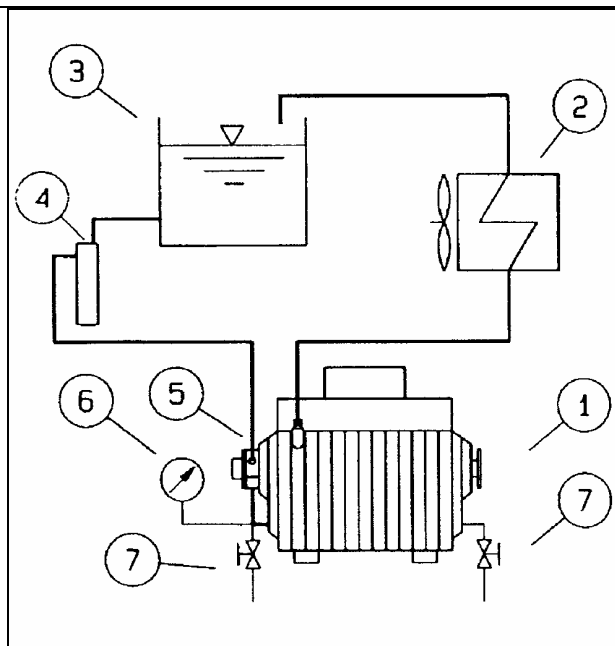

Fig. 11
| <p>Cooling the vacuum pump. fig.11</p> <p>The vacuum pump is liquid-cooled.</p> <p> We advise using a non-pressurized closed circuit with forced circulation as in fig.11. The circulating pump is built in.</p> <p> The temperature of the cooling fluid must never exceed 70°C. In the event of overheating of the cooling fluid, it is advisable to run the vacuum pump with free suction until the temperature of the fluid falls, then stop the vacuum pump and leave for about 1 hour. If necessary, contact an authorized dealer.</p> <p> If the vacuum pump is used in harsh conditions or for continuous duty, use an extra powerful cooling system: Contact a Moro authorized dealer. La Moro has all the elements needed to make a system corresponding to the one shown in the figure and declines all responsibility for overheating or damage due to systems not complying with the above indications.</p> <p> The pressure in the system must not rise above 0,7 – 0,8 bar. If a higher pressure is found, proceed as follows: Ensure that the system is not underpressure. Use pipes with a larger diameter, shorter pipes, or with less curves Ensure that the system elements are not clogged.</p> <p>Cooling liquid Water has to be mixed with 5%-10% of transparent soluble fluid oil (e.g./ SHALL LUTEM OIL MULTIMETAL or equivalent).</p> <p>Antifreeze fluid As cooling fluid the vacuum pump uses a mixture of water and antifreeze as shown in following table:</p> <table border="1" data-bbox="151 1456 534 1668"> <thead> <tr> <th>Outside temperature °C</th> <th>Antifreeze %</th> </tr> </thead> <tbody> <tr> <td>Down to -10°</td> <td>5</td> </tr> <tr> <td>Down to -20°</td> <td>35</td> </tr> <tr> <td>Down to -30°</td> <td>45</td> </tr> <tr> <td>Down to -40°</td> <td>55</td> </tr> <tr> <td>Lower than -40°</td> <td>Apply to an Authorized Dealer</td> </tr> </tbody> </table> <p> Never use mixture of water and less than 5% antifreeze as coolant and certainly not water alone.</p> <p> If the vacuum pump is to remain unused for long periods, remove the cooling fluid by means of the drainage cocks provided, see page 11.</p> | Outside temperature °C | Antifreeze % | Down to -10° | 5 | Down to -20° | 35 | Down to -30° | 45 | Down to -40° | 55 | Lower than -40° | Apply to an Authorized Dealer | <p>Refroidissement de la pompe à vide-fig.11</p> <p>La pompe à vide est refroidie par liquide.</p> <p> Il est conseillé d'utiliser un circuit fermé non pressurisé à circulation forcée comme indiqué à la figure 11. La pompe de circulation est intégrée.</p> <p> Le liquide de refroidissement ne doit jamais dépasser les 70°C. En cas de réchauffage excessif du liquide, il est opportun de faire opérer la pompe à vide en aspiration libre jusqu'à ce que la température du liquide diminue et d'arrêter ensuite la pompe à vide au moins pendant une heure. Contacter un revendeur autorisé.</p> <p> Si l'emploi de la pompe à vide est lourd ou continu adopter une installation de refroidissement plus puissante :contacter un revendeur autorisé ou Moro dispose de tous les éléments nécessaires pour réaliser une installation conforme à celle qui est indiquée sur la figure et décline toute responsabilité en cas de surchauffages ou dommages dus à des installations non conformes à ce qui est indiqué ci-dessus.</p> <p> La pression de l'installation ne doit pas dépasser 0,7-0,8 bars. Au cas où l'on constate une pression plus grande, contrôler : que l'installation n'est pas pressurisée. utiliser des tubes ayant un diamètre plus grand, plus courts et avec le minimum de courbes. contrôler que les éléments de l'installation ne sont pas bouchés.</p> <p>Liquide de refroidissement L'eau de refroidissement devra être mélangée à une huile fluide soluble réfrigérante transparente (p.e. : SHELL LUTEM OIL MULTIMETAL) dans la mesure de 5%-10%.</p> <p>Liquide antigel La pompe à vide utilise comme liquide de refroidissement un mélange d'eau et d'antigel d'après le tableau suivant :</p> <table border="1" data-bbox="587 1478 997 1691"> <thead> <tr> <th>Température extrême °C</th> <th>Antigel %</th> </tr> </thead> <tbody> <tr> <td>Jusqu'à -10°</td> <td>5</td> </tr> <tr> <td>Jusqu'à -20°</td> <td>35</td> </tr> <tr> <td>Jusqu'à -30°</td> <td>45</td> </tr> <tr> <td>Jusqu'à -40°</td> <td>55</td> </tr> <tr> <td>Au-delà de -40°</td> <td>S'adresser à un Revendeur autorisé</td> </tr> </tbody> </table> <p> Ne jamais utiliser un mélange d'eau et d'antigel inférieurs à 5% ou uniquement de l'eau comme liquide de refroidissement.</p> <p> Si l'on n'utilise pas la pompe à vide pendant de longues périodes enlever le liquide de refroidissement au moyen des drainages appropriés – voir fig.11</p> | Température extrême °C | Antigel % | Jusqu'à -10° | 5 | Jusqu'à -20° | 35 | Jusqu'à -30° | 45 | Jusqu'à -40° | 55 | Au-delà de -40° | S'adresser à un Revendeur autorisé | <p>Abkühlen der Vakuumpumpe. Abb.11</p> <p>Die Vakuumpumpe wird mit Flüssigkeit gekühlt.</p> <p> Es empfiehlt sich die Verwendung eines geschlossenen, unverdichteten Kreises mit Zwan- gszirkulation, wie in der Abb.11 gezeigt. Die Umlaufpumpe ist miteingebaut.</p> <p> Die Temperatur der Kühlflüssigkeit darf auf keinen Fall 70°C überschreiten. Im Fall der übermäßigen Erhitzung der Kühlflüssigkeit empfiehlt es sich die Vakuumpumpe frei ansaugen zu lassen, bis die Temperatur der Flüssigkeit absinkt, und anschliessend die Vakuumpumpe mindestens 1 Stunde ruhen zu lassen. Wenden Sie sich an einen autorisierten Händler.</p> <p> Wenn die Vakuumpumpe stark belastet oder mit Dauerbetrieb eingesetzt wird, sollte eine verstärkte Kühlanlage installiert werden. Wenden Sie sich zu diesem Zweck an Ihren Vertragshändler oder direkt an die Firma Moro . Die Firma Moro . verfügt über alle Elemente, die für die Erstellung eines der Abbildung entsprechenden Anlage erforderlich sind und haftet nicht für Überhitzungen oder Schäden, die durch nicht den Angebenentsprechende Anlagen entstehen können.</p> <p> Der Anlagendruck darf 0,7-0,8 bar nicht überschreiten. Falls der Druck höher sein sollte, wie folgt vorgehen: Sicherstellen, dass die Anlage nicht verdichtet ist. Kürzere Rohre mit größerem Durchmesser und so wenig Biegungen wie möglich verwenden. Kontrollieren, ob die Elemente der Anlage verstopft sind.</p> <p>Kuehlungsmittel Das Kuehlungsmittel muss mit 5%-10% wasserlotsischem Transparentöl vermischt werden (z.B.: SHELL LUTEM OIL MULTIMETAL oder ähnlich).</p> <p>Frostschuttlösung Die Vakuumpumpe verwendet als Kuehfluessigkeit eine Lösung aus Wasser und Frostschuttmittel, gemäss der folgenden Tabelle:</p> <table border="1" data-bbox="1038 1456 1460 1646"> <thead> <tr> <th>Außentemperatur °C</th> <th>Frostschuttmittel %</th> </tr> </thead> <tbody> <tr> <td>Bis -10°</td> <td>5</td> </tr> <tr> <td>Bis -20°</td> <td>35</td> </tr> <tr> <td>Bis -30°</td> <td>45</td> </tr> <tr> <td>Bis -40°</td> <td>55</td> </tr> <tr> <td>Bis -40°</td> <td>eine autorisierten Händler hinzuziehen</td> </tr> </tbody> </table> <p> Verwenden Sie auf keinen Fall als Kühlmittel eine Mischung aus Wasser und weniger als 5% Frostschuttmittel, oder gar nur Wasser.</p> <p> Falls die Vakuumpumpe längere Zeit unbenutzt bleibt, muss die Kühlflüssigkeit über die speziellen Dränagen abgelassen werden siehe Abb.11.</p> | Außentemperatur °C | Frostschuttmittel % | Bis -10° | 5 | Bis -20° | 35 | Bis -30° | 45 | Bis -40° | 55 | Bis -40° | eine autorisierten Händler hinzuziehen |
Raffreddamento della pompa per vuoto fig.11
- Si consiglia di utilizzare un circuito chiuso non pressurizzato a circolazione forzata come in fig.11.
Nel caso si lasci ferma la pompa per vuoto per lunghi periodi levare il liquido di raffreddamento tramite gli appositi drenaggi vedi fig.11.